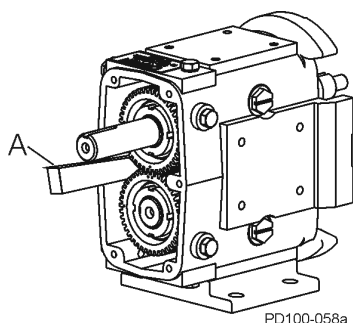

Figure 39 - Block Shaft Rotation
1. Prevent the shafts from turning by placing a wedge between the gears (Figure 39, item A). Use a spanner wrench or drift punch to remove the gear lock nut. The gears will be removed later.